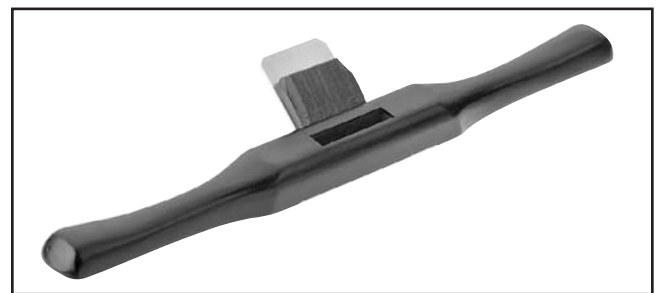

Figure 3. Model T10262 assembled.
4. The spokeshave, when assembled, will look like **Figure 3**.